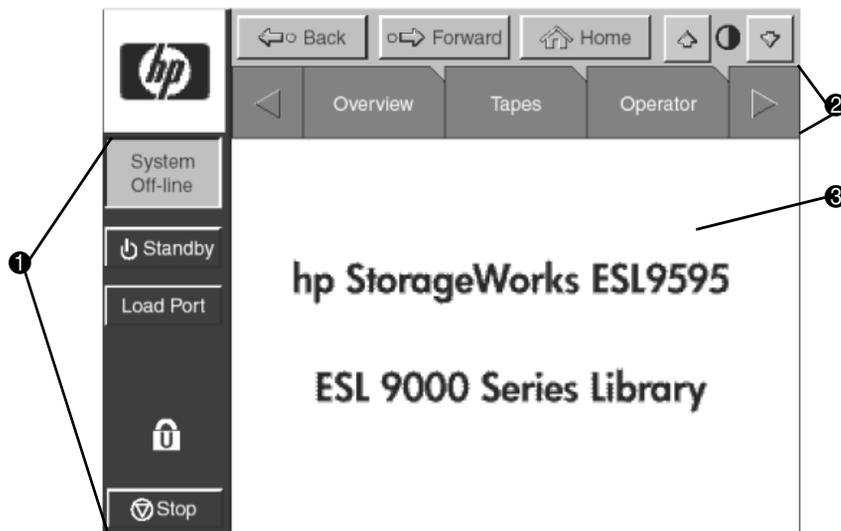

Figure 7: Control panel home screen (ESL9595 shown)
The control panel features a menu system for determining library status, configuring the library, and performing certain diagnostic functions (see Figure 7).
- ❶ Vertical taskbar ❷ Horizontal taskbar ❸ Main display area
The vertical taskbar (❶ Figure 7) provides various library controls such as system state display (**Off-line** or **On-line**), **Standby** button, **Load Port** button, the security level indicator (lock icon), and the **Stop** button. The **Stop** button immediately removes power from library robotics.
The horizontal taskbar (❷ Figure 7) provides left and right arrow buttons to scroll through the tabs for **Overview**, **Tapes**, **Operator**, **Service**, and **Multi-unit** options.